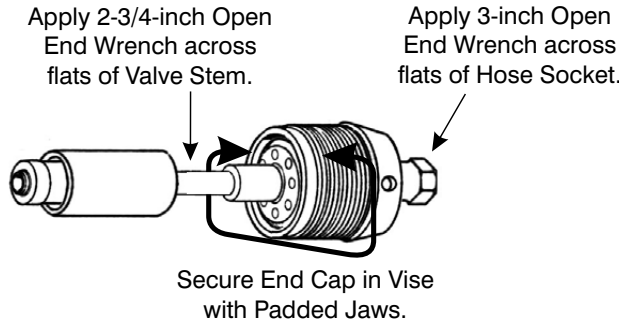

Figure 9-21. Tighten the Hose Adapter onto the Valve Stem.
7. Secure the Hose Adapter (15) onto the Valve Stem (8). Refer to Figure 9-21.
- a. Hold the Valve Stem (8) across its flats with a 2-3/8-inch open-end wrench.
- b. Use a 3-inch open-end wrench to tighten the Hose Adapter (15) on the Valve Stem (8). Refer to Figure 9-21.